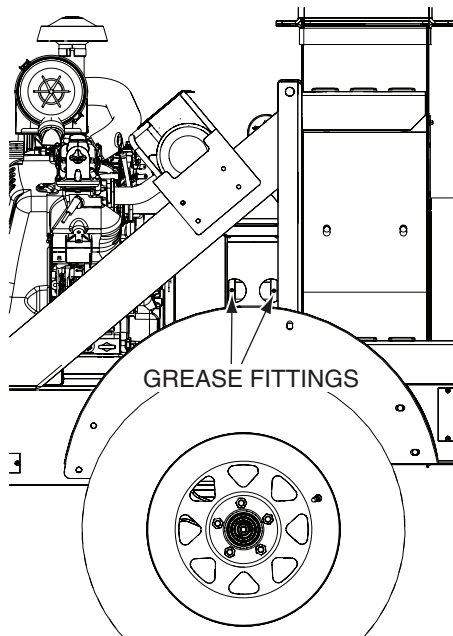

Figure 5-3. Impeller Shaft Grease Fittings
1. Apply grease to the two bearing carrier grease fittings located on the left side of the machine every 50 hours or weekly, whichever comes first, of operation. See Figure 5-3.